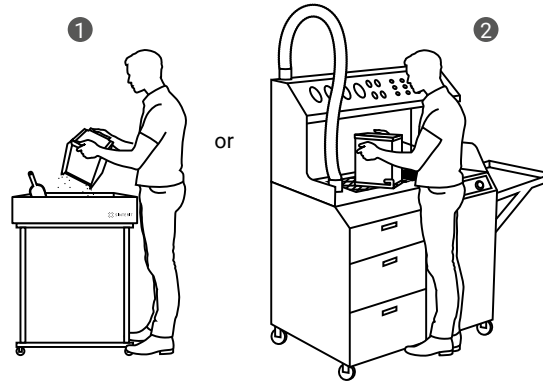

Fig. 8.5 Transferring the IO BOX onto the foldable tray **1** or onto the PHS worktop **2** in order to clean the printout.
8. Carry the IO BOX and its content onto the foldable tray from Dedicated Powder Tools ① or onto the PHS worktop ② (fig. 8.5).